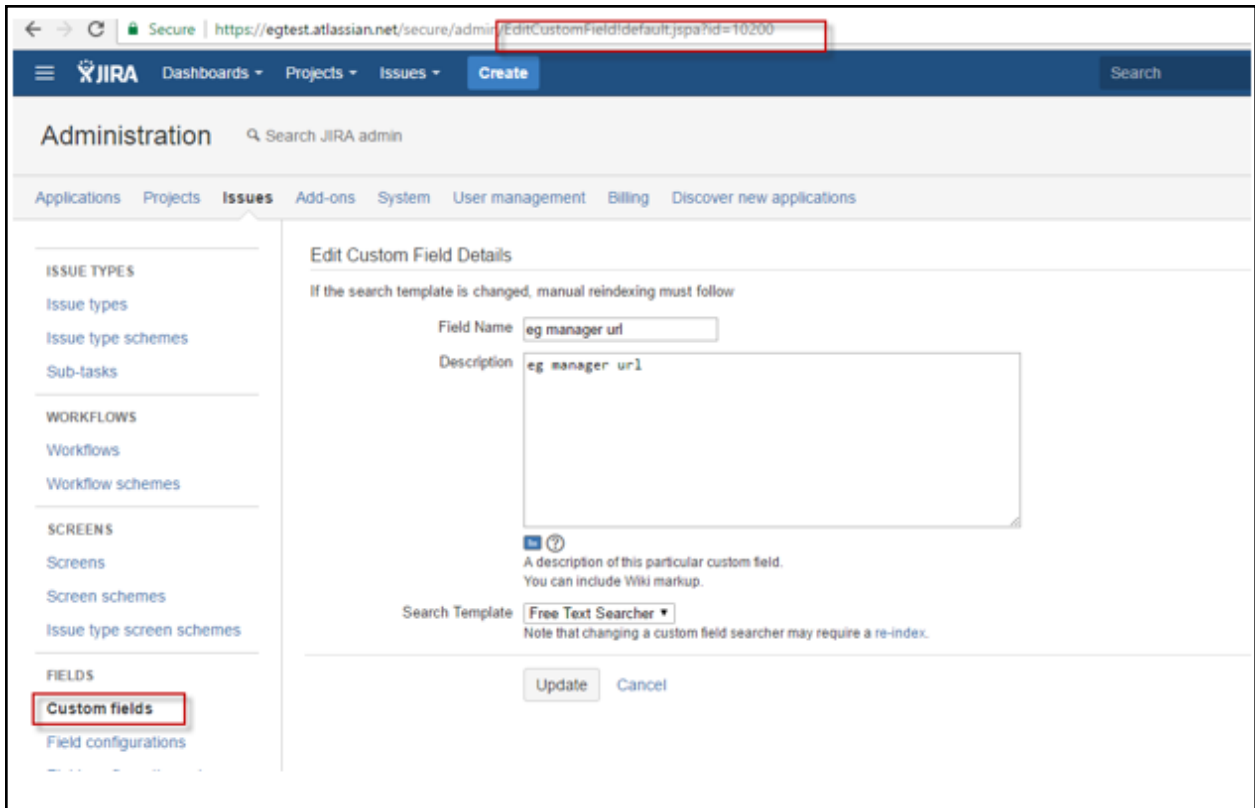

Figure 5.49: Determining the ID of the 'eG manager URL' custom field
- When Figure 5.49 appears, shift your focus to the browser address bar. In the URL that appears in the address bar, look for the following entry: *EditCustomField!default.jspa?id=*
The same has been indicated by Figure 5.49.
The value that appears after the = symbol in the entry, is the ID of the custom field that is being edited – i.e., the ID of the 'eG manager url' custom field in our example. In Figure 5.49, this ID is 10200. Make a note of this ID.